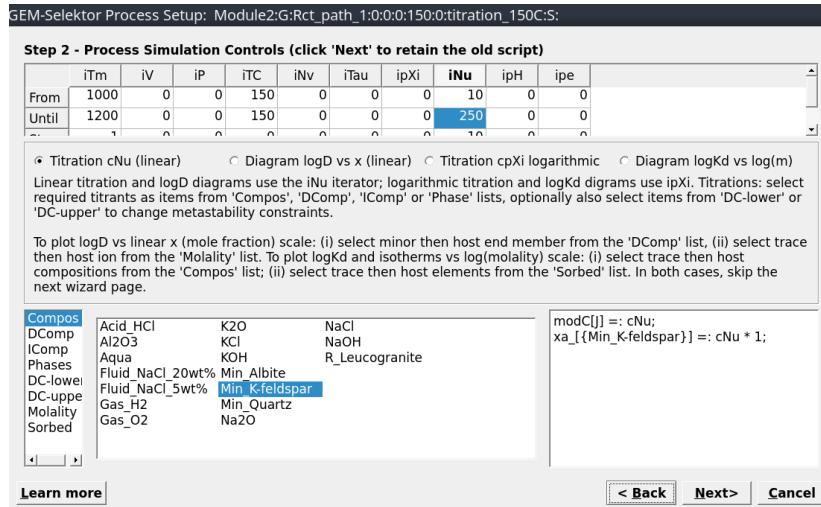

Figure 2.8: Set the parameters for the ‘Process’ simulation; Set ‘iTm’ 1000, 1200, 1; Set ‘iP’ to 0 all fields; Set ‘iNu’ 10, 250, 10.
- In the next window, choose a model (**titration cNu linear**), a mineral (**Compos, Min_K-feldspar**) and select the temperature (150 °C), pressure (0 for water vapor saturation P) and amount of mineral to be added (**iNu**: 10-250 g in 10 g steps) as shown in Figure 2.8. The parameters are: set **iTm** 1000, 1200, 1; set **iP** to 0 all fields; set **iNu** 10, 250, 10, corresponding to start, end, and step values.